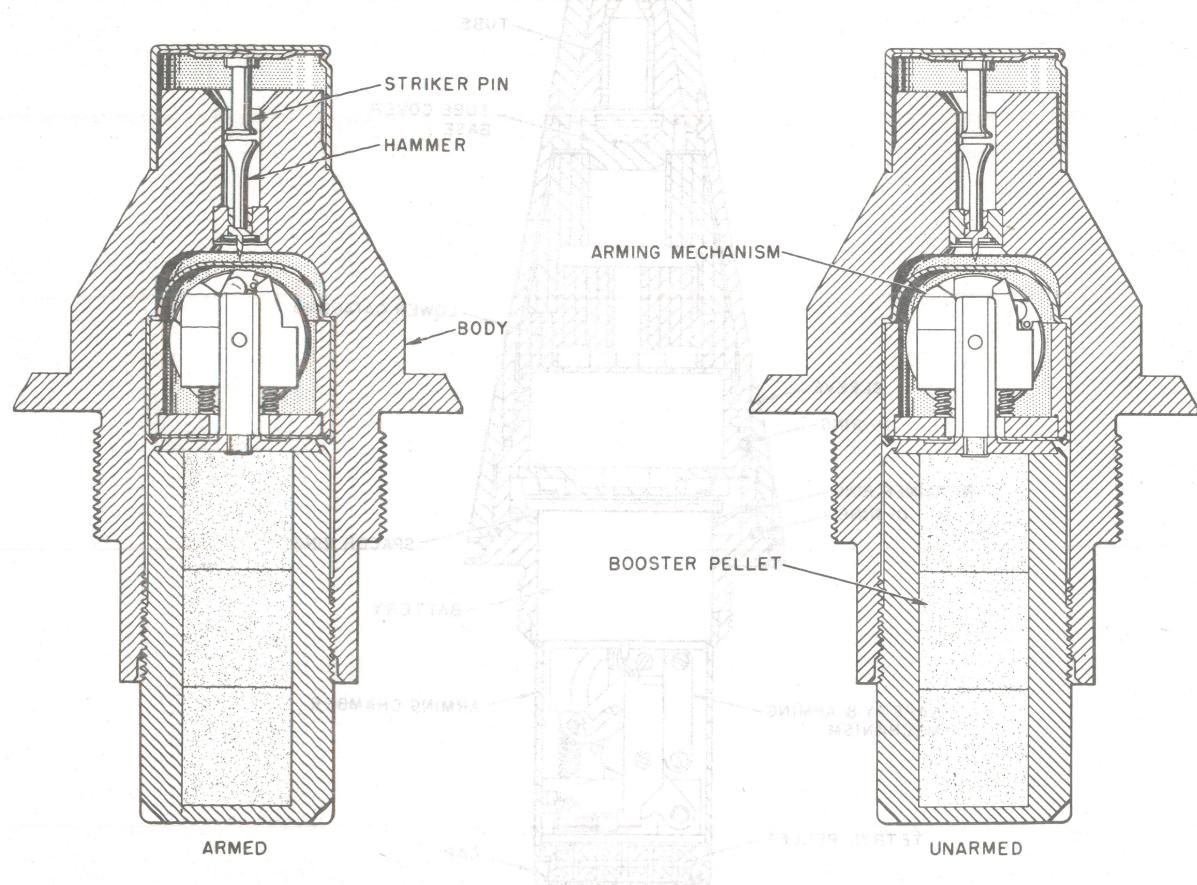

Figure 10 – Fuze Mk 188 Mod 0 (PD), Unarmed and Armed.
**FUZE MK 188 MOD 0 (PD).** The Mk 188 Mod 0 PD fuze may be attached to the nose of the 5.0-inch Rocket Heads Mk 32 Mod 0 and Mk 24 Mod 0. The fuze, unarmed and armed, is shown in figure 10. With ZUNI launched at 550 knots, the fuze will arm on acceleration or a combination of acceleration and deceleration at distances of 1000 to 2000 feet. It functions on a minimum of target thickness of 0.016-inch-thick 24ST aluminum. If a rocket is accidentally fired on the deck of an aircraft carrier, the fuze will not arm within the length of the carrier; therefore, the fuze is carrier-safe.
body. A plastic hammer and a stab-action firing pin are supported by an anti-setback washer. The explosive train is contained in an unbalanced rotor and consists of a sensitive primer and a detonator. The rotor is held in its unarmed position by an acceleration-operated, spring-controlled setback weight. An acceleration of 13 to 15 g moves the setback weight aft, causing the unbalanced rotor to start turning toward the armed position, figure 10. If the force is a transient one, such as occurs during jolt testing, dropping, or transporting, the setback weight will immediately return